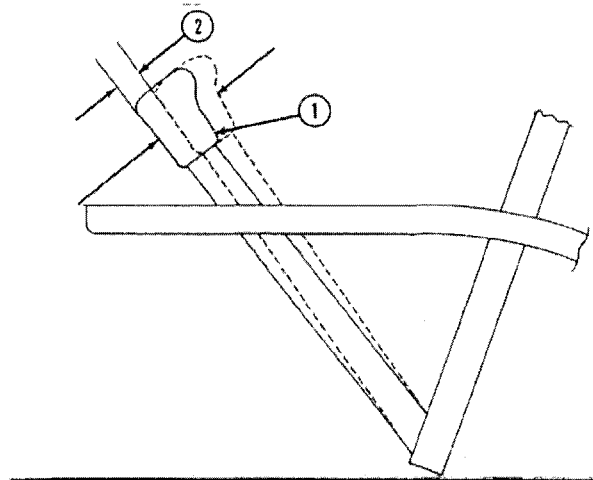

Figure 54
Reference — Figure 54
- Place the position control lever (1) in the neutral position.
- Measure the lever travel (2) required from the start of a continuous raise position to start lowering as shown, Figure 54.
- If the travel distance is excessive, remove the control valve assembly from the lift cover, Figure 54.
Loosen the locknut (3), Figure 54, and turn the adjusting bolt (4) clockwise to decrease the distance between the adjusting bolt and the lowering valve spool.